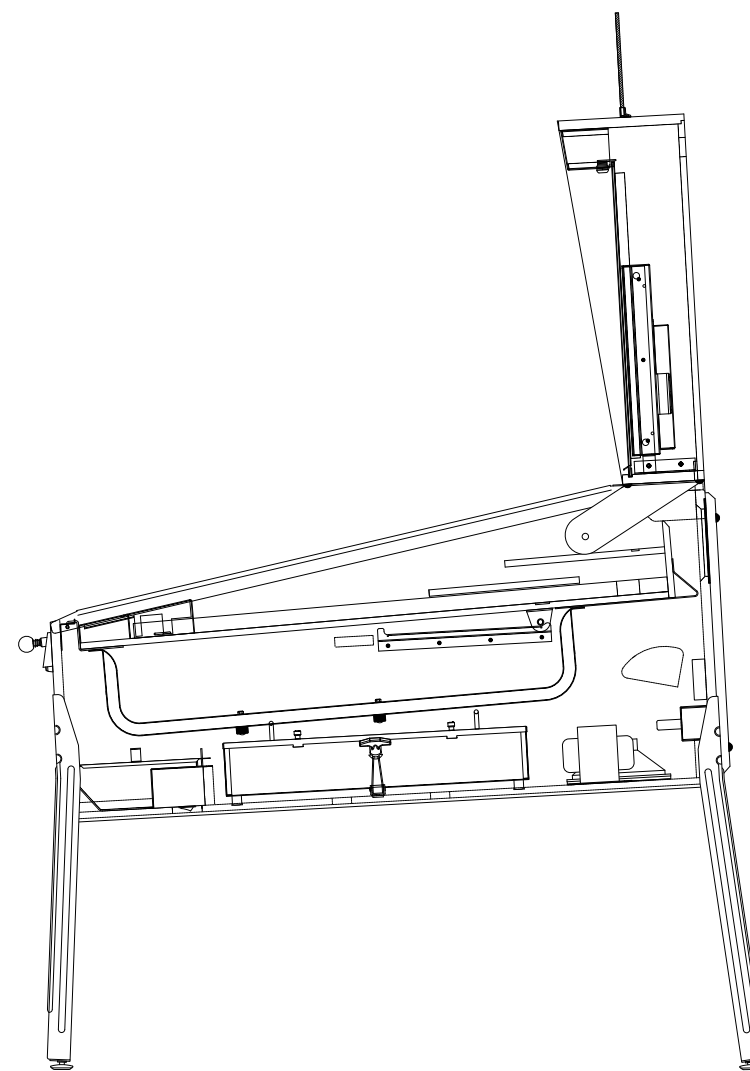

Figure A11. Playfield in the game play position.
13) Your Jersey Jack Pinball® playfield is designed to rest in four distinct positions in its cabinet for game play, cleaning and maintenance. Figure A11 shows the playfield in its standard position.